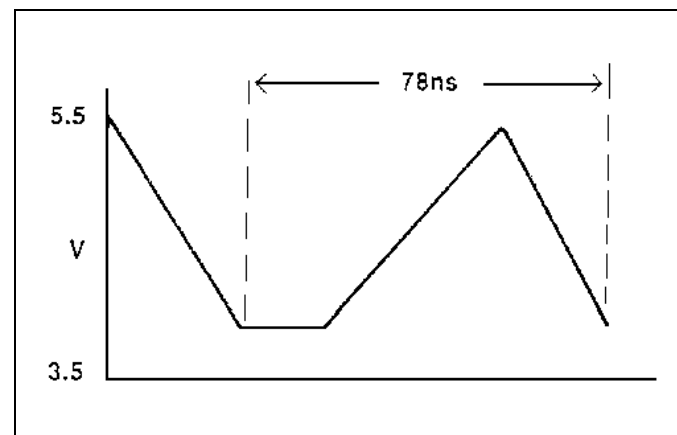

Figure 3 - Reference Oscillator (Input To U206, Pin 2)
Look for a waveform similar to the reference (Figure 3) on Pin 2. If waveform is not present, the oscillator module is probably defective.
**PIN CONNECTIONS (FIG. 3)**